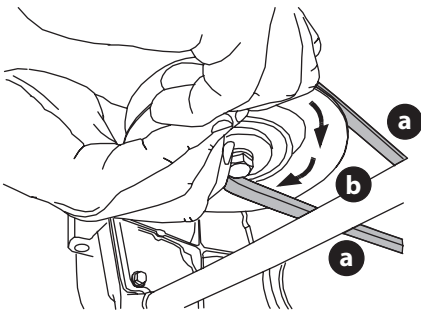

Figure 47
- d. While still holding the PTO belt (a) downward, continue turning the PTO pulley (b) until the PTO belt (a) is rolled off the PTO pulley (b) (Figure 47).
10. While holding the PTO belt and PTO pulley together, rotate the PTO pulley to the left (Figure 47 on page 31). Continue holding and rotating the PTO pulley and PTO belt until the PTO belt is fully rolled into the PTO pulley.